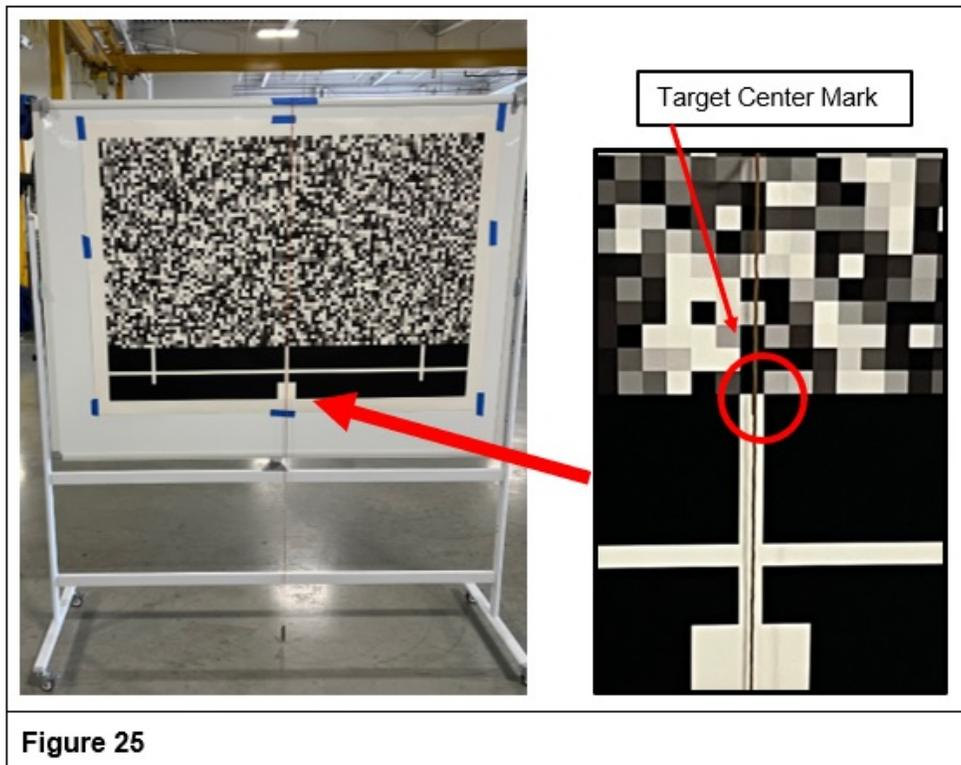

Figure 25
34. Tape the Plumb Bob string *without* the loops to the top of the Target Stand. The Plumb Bob string *must* pass directly through the center of the Target (over the small center mark) as shown in Figure 25. The Plumb Bob weight point should barely be off the floor.
37. Adjust the Target until the Cross-Line Laser Level beam is directly over the Plumb Bob string and the small center mark shown in Figure 25.
41. Adjust the Target until the Cross-Line Laser Level beam is directly over the Plumb Bob string and the small center mark shown in Figure 25.